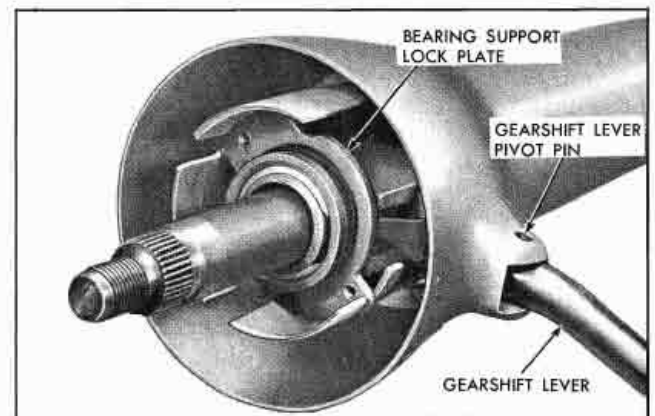

Fig. 7-20 Bearing Support Lock Plate
15. Disengage and remove bearing support lock plate (Fig. 7-20).
17. Install bearing support lock plate, engaging flanges on plate in notches of steering column (Fig. 7-20).